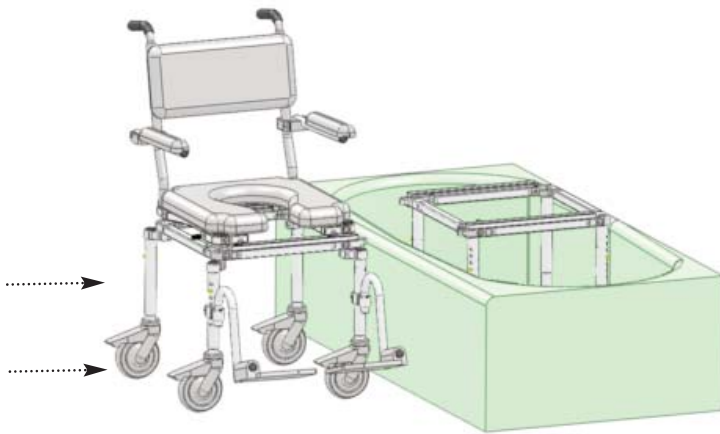

Figure 14
**C** Position the assembled roll-in section of the slider next to the outside wall of the bath tub (Refer to Figure 14).